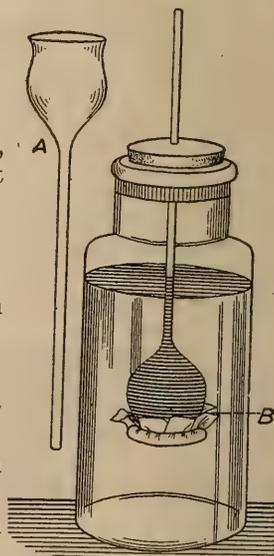

Fig. 59, Shows osmosis through bladder membrane.
- d. Arrange tube as indicated in Fig. 59.